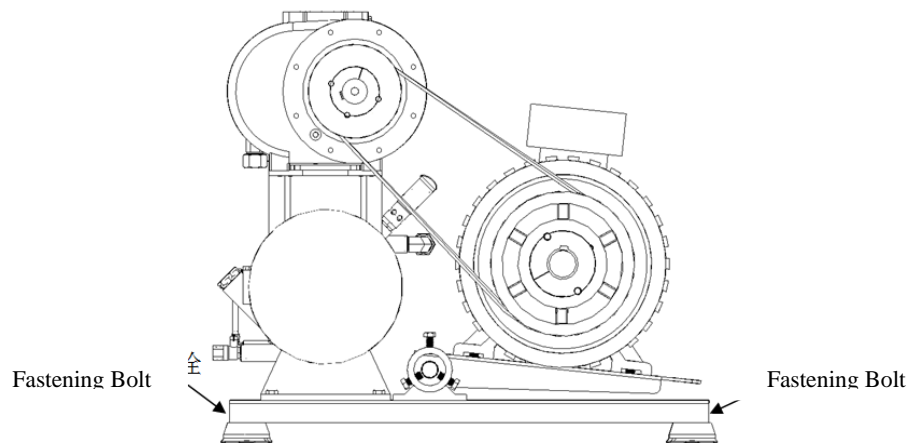

Figure 2.3
- (1) Please check if fastening bolt on the interior pedestal of the air compressor has been dismantled before commissioning it. There is a paper sticker on the fastening bolt (Fig. 2.3).